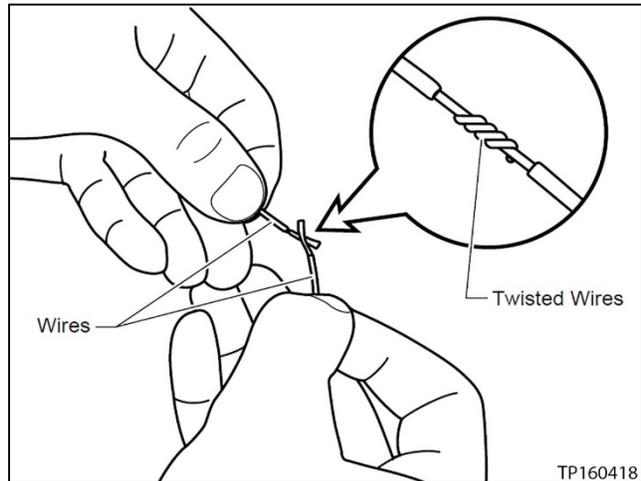

Figure 18
- See Figure 18 for example of twisting wires.